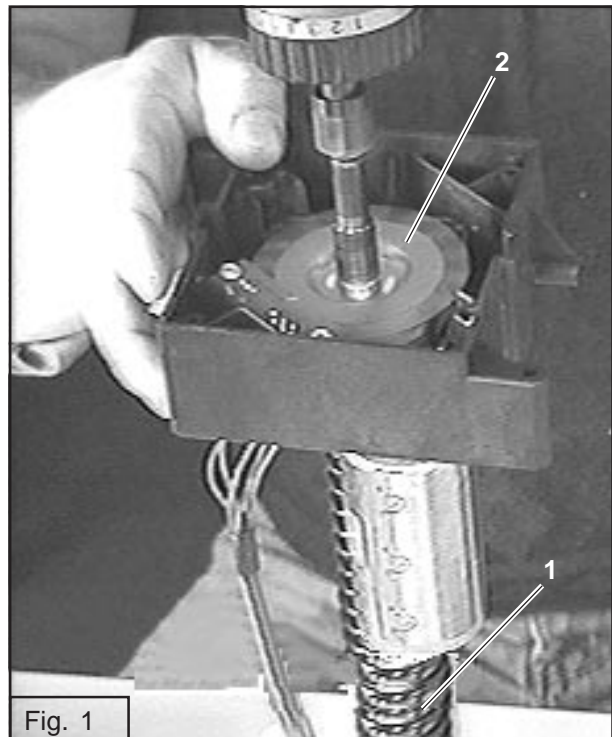

Fig. 1
- Release the actuator spring (1) by turning the fastening nut of the tacho disc (2) anti-clockwise. The nut must rotate together with the tacho disc and must not loosen. (Fig. 1)